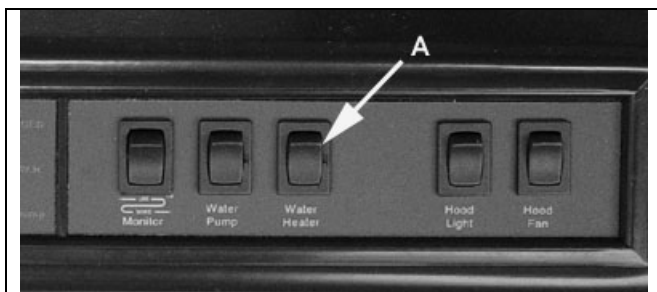
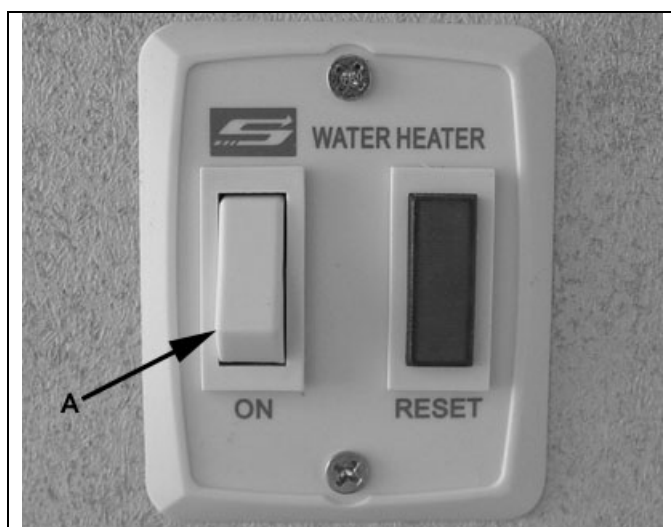

Figure 4-6 – Water Heater Control On Exhaust Hood
Figure 4-7 – Water Heater Control On Wall
- Verify water heater on/off switch (A) is in the off position. See figure 4-6 or 4-7.
If your trailer is equipped with an exhaust hood, the switch is located on the exhaust hood (figure 4-6). If your trailer is not equipped with an exhaust hood, the switch is mounted on the wall (figure 4-7).